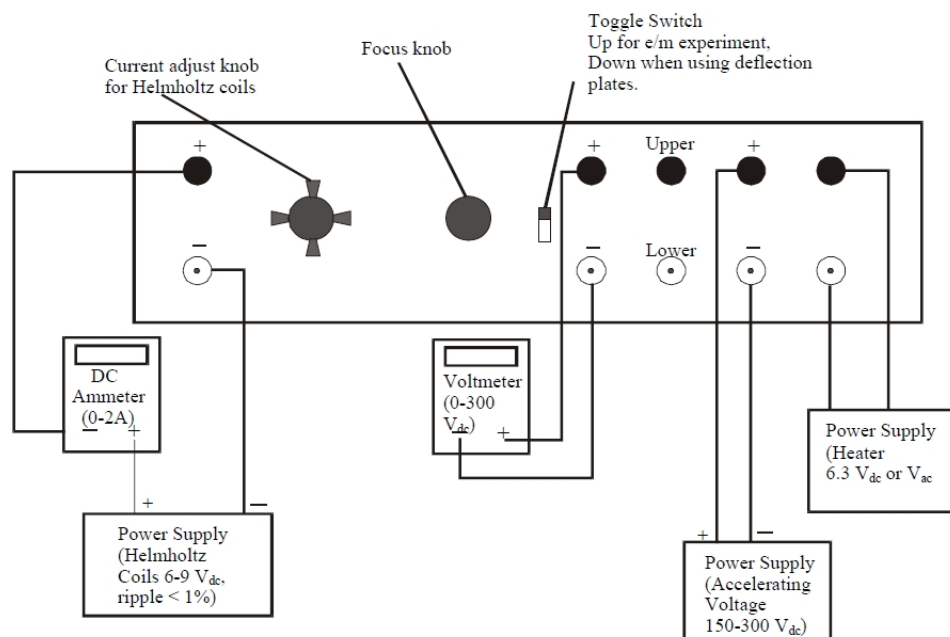

Figure 4 Connections for e/m experiment
- D. Connect your power supplies and meters to the front panel of the e/m apparatus, as shown in Figure 4.